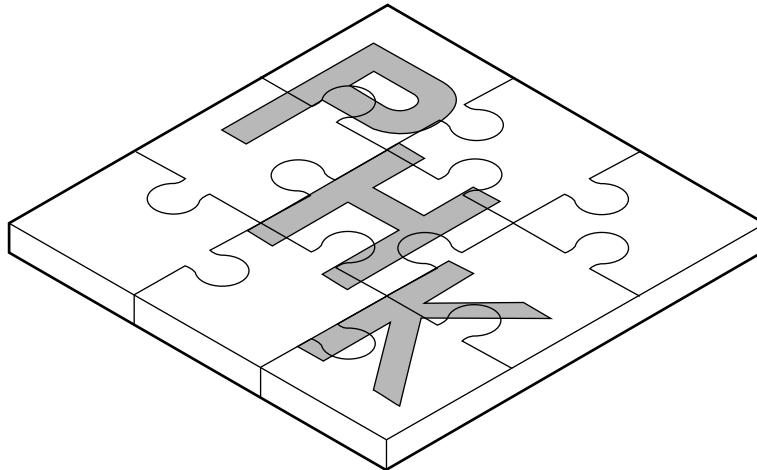

Fig. 9
- 5 The promotional puzzle shown in Fig. 9, is used by a company called 'PHK Chemicals'. The puzzle is made from 5 mm thick foamboard.